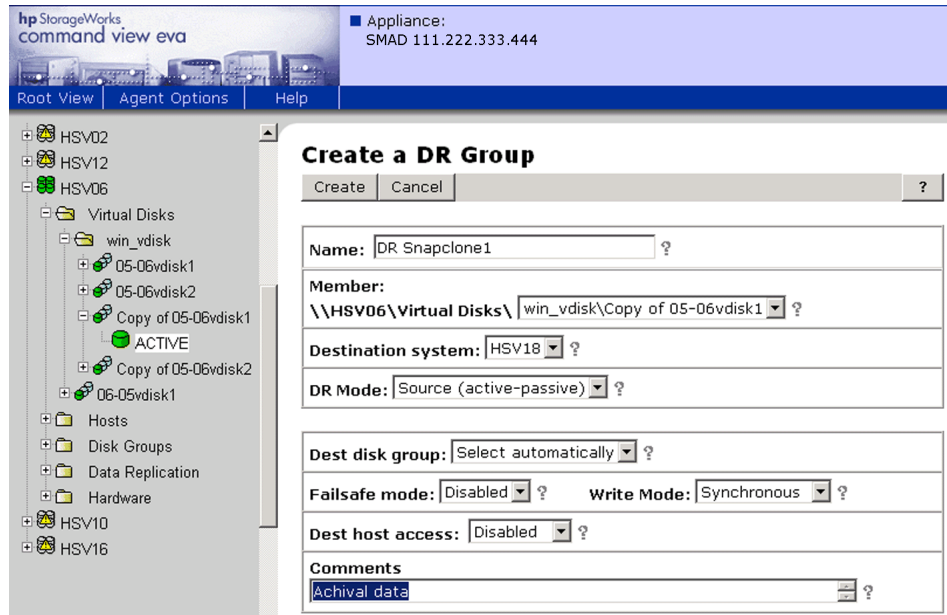

Figure 69: Create a DR Group page
- b. Click the **Add member** tab. The Create a DR Group page is displayed (Figure 69).